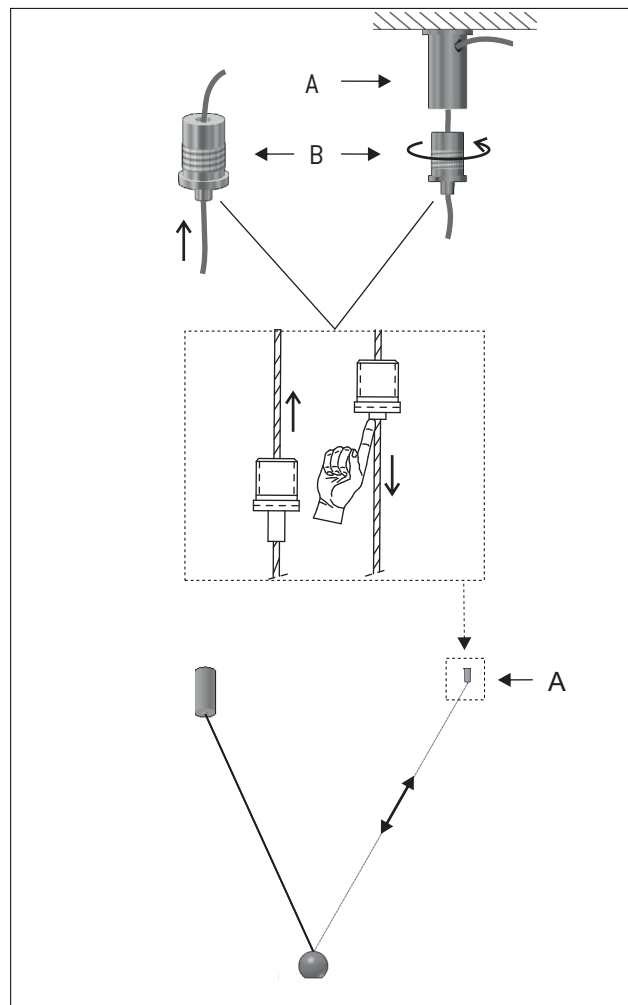

Figure 2
2 - Run the steel cable through the gripper support (B) and then run it through the side hole of the tensor (A). Screw the gripper support back to the tensor and adjust the cable to the desired length. Figure 2